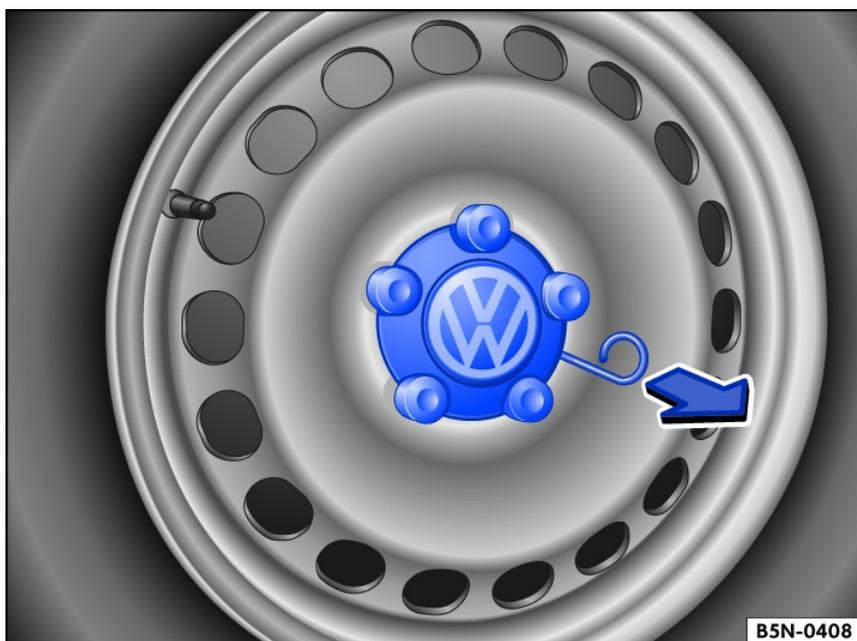

Fig. 204 Remove the hubcap.
- *Removing:* take the wire bracket out of the vehicle tool kit ⇒ *Vehicle tool kit components* and insert in a hole (aluminum alloy wheel) or engage on the edge (steel rim) of the trim *fig. 204*.